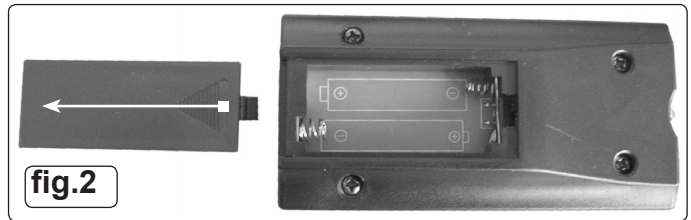

fig.2
- 7.4. To change the remote control batteries, press down and push back the battery cover (fig.2), remove old batteries and replace with two new AAA batteries.